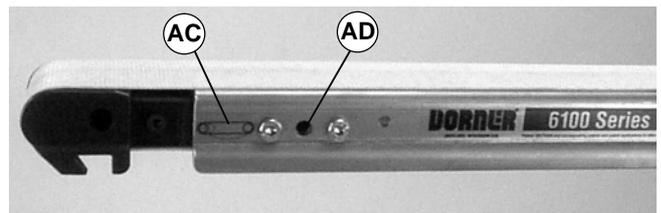

Figure 20
3. On tension end of the conveyor identified with a  label (AC of Figures 20 & 21), insert a 5 mm hex key wrench to engage pinion gear (AD of Figure 20).
4. On tension end of the conveyor identified with a  label (AC Figures 20 & 21), insert a 5 mm hex key wrench to engage pinion gear (AD of Figure 20).
1. On tension end of the conveyor identified with a  label (AC of Figures 20 & 21), insert a 5 mm hex key wrench to engage pinion gear (AD of Figure 20).
NOTE: On pinion gear (AD of Figure 20), do not exceed a torque of 2.8 Nm for 44 mm to 305 mm wide conveyors and 4.5 Nm for a 457 mm wide conveyor. Over-tensioning the conveyor belt could cause excessive pulley bearing load and early failure.